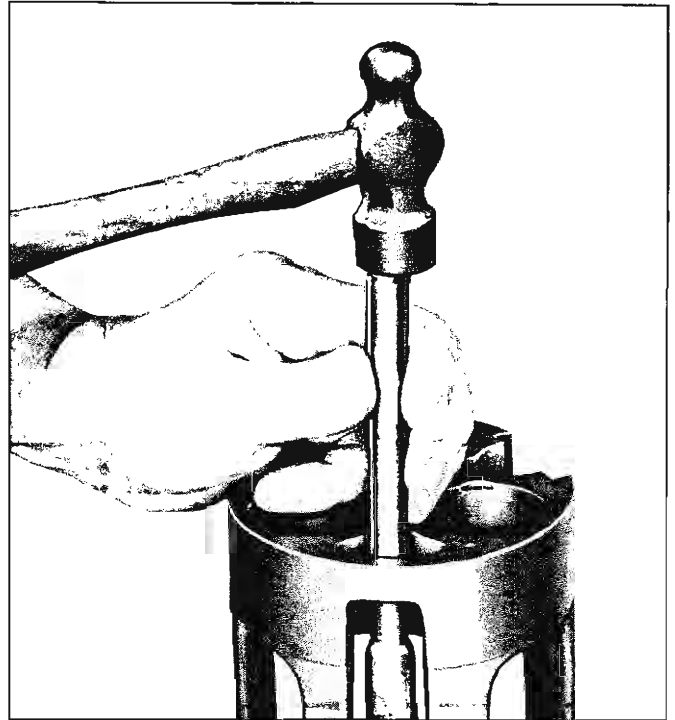

Fig. 40—Unseating Discharge Crossover Tube
2. Use J-9492 to drive discharge tube out of cylinder (fig. 40). (Drive toward REAR of cylinder).